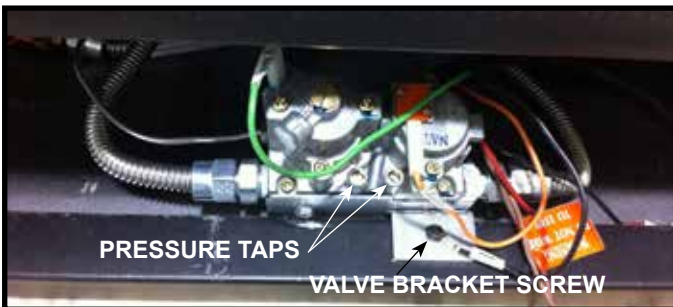

Figure 11.5 Valve Pressure Taps
1. Remove eleven screws around perimeter of valve plate as well as valve bracket screw. See Figure 11.2 and Figure 11.5.
The pressure taps are accessible through the front of the appliance. The decorative mesh front and fireplace gas assembly must be removed to gain access to the pressure taps. See Figure 11.5.